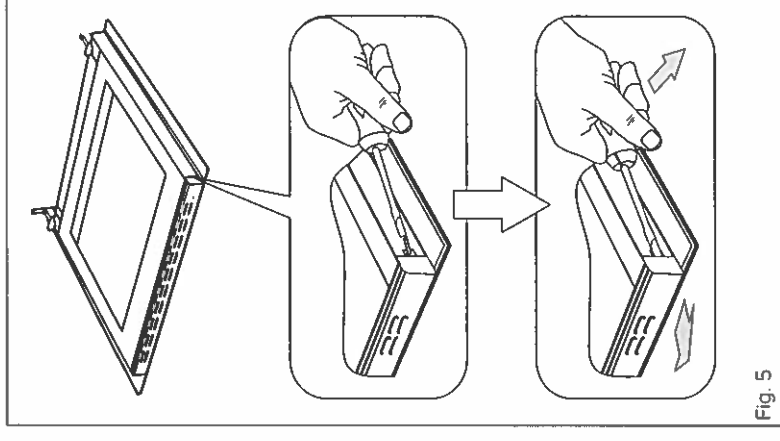

Fig. 5
- Use a flathead screwdriver or to unhook the door slat, as shown in fig. 5